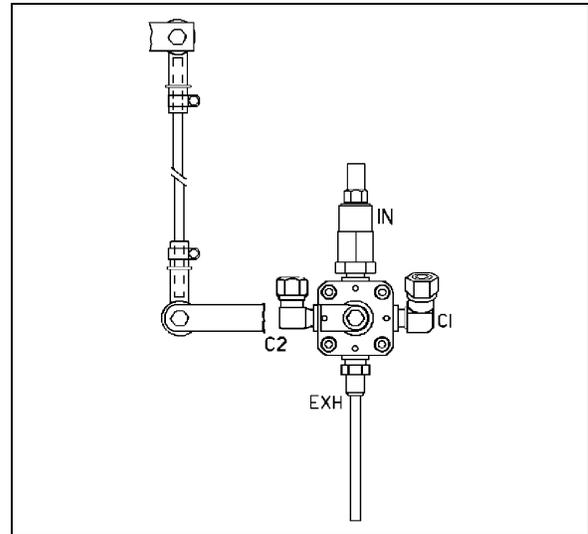

FIGURE 49: FRONT HEIGHT CONTROL VALVE 16100
4. Loosen the clamp on the height control valve rubber coupling and bring it up or down (Figure 49).